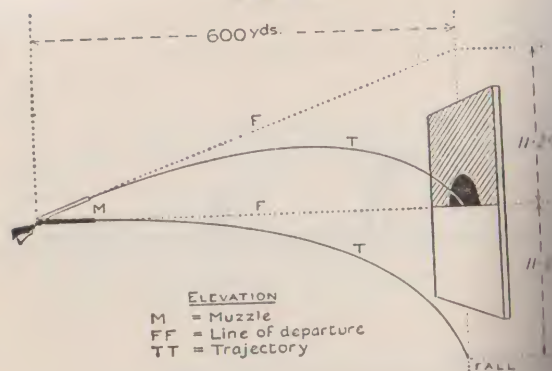

FIG. 8.
1. *Elevation.*—In order to allow for the fall of the bullet, it is usual to direct the line of departure as much above the object to be hit as the bullet will fall below it if the axis of the barrel is pointed at the target. This raising of the barrel to allow for the curve of the trajectory is termed giving elevation (Fig. 8).